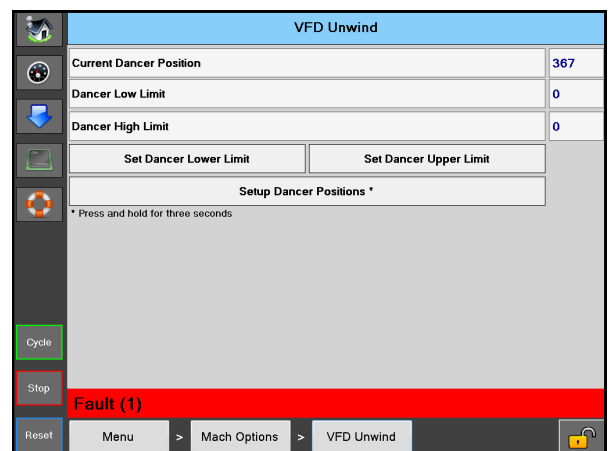

Figure 4-8D. Dancer Settings Cleared.
4. This will clear settings and place bagger into a fault. Figure 4-8D